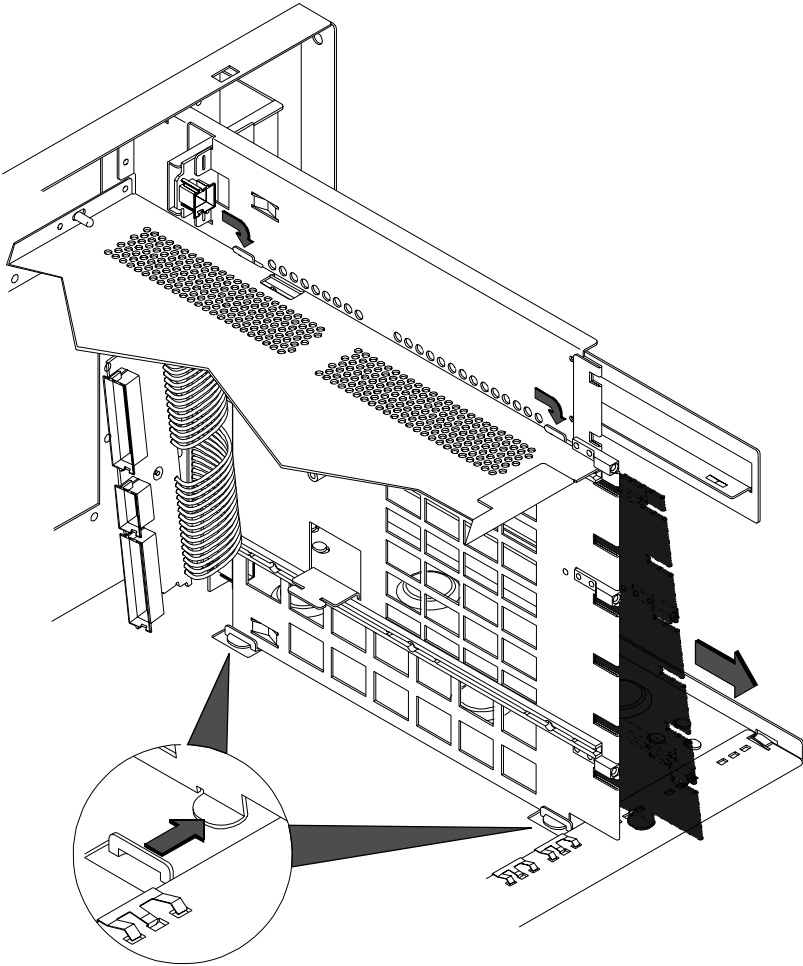

Figure 5-22
- 4 Rotate lower edge of the center wall to the right about 2 inches, then slide tabs at the top of the wall out of slots in the mass storage module support. Refer to Figure 5-22. Set aside wall.